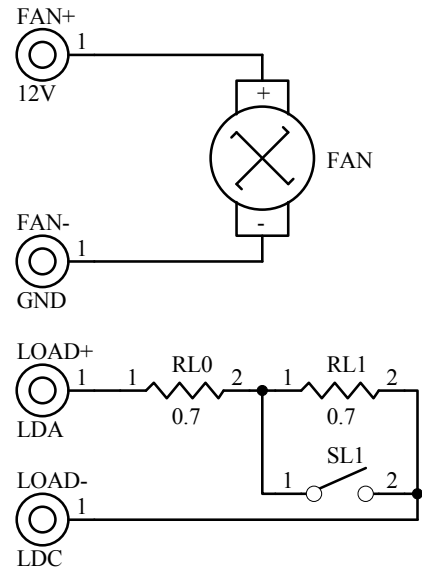

Figure 8 Schematic of Load
The schematic of load is shown in Figure 8 below.
- Test the controller with the “dummy laser”. The unbreakable power resistors load, RL0 and RL1, can form a “dummy laser” to act as the laser diode in the place of a real laser so that in case there is a problem in the circuit, the expensive laser would not be damaged, see schematic in Figure 8. Turning switch SL1, off and on will increase (turning off the switch) and decrease (turning on the switch) the forward voltage of the “dummy laser” which can be measured by a volt meter between the LDA and the ground. **Warning: when output 10A current, the load may get very hot, don't put your fingers on them.** This is the way to calculate the power consumption of the controller:
sets of the data are plotted in Figure 8.